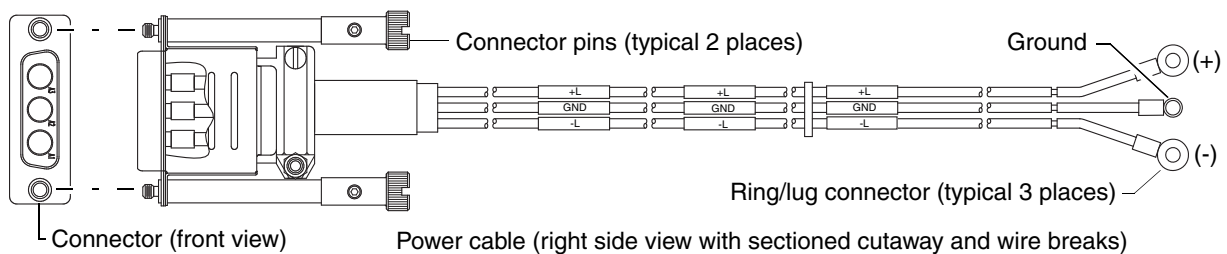

Figure 25 DC power cable featuring D-shell and lug connectors
2. Loosen the cable-locking screws that attach each D-shell connector to its power supply, and carefully disconnect the lugs on each cable wire component of the DC power cable from the DC power source (Figure 25 on page 42 shows cable wire lugs and D-shell connector).
Check the three individual DC cable wire labels before connecting each cable wire lug to its power source. One cable wire is labeled ground (GND), and the other two are labeled positive (+L) and negative (-L), respectively (see Figure 25 above).